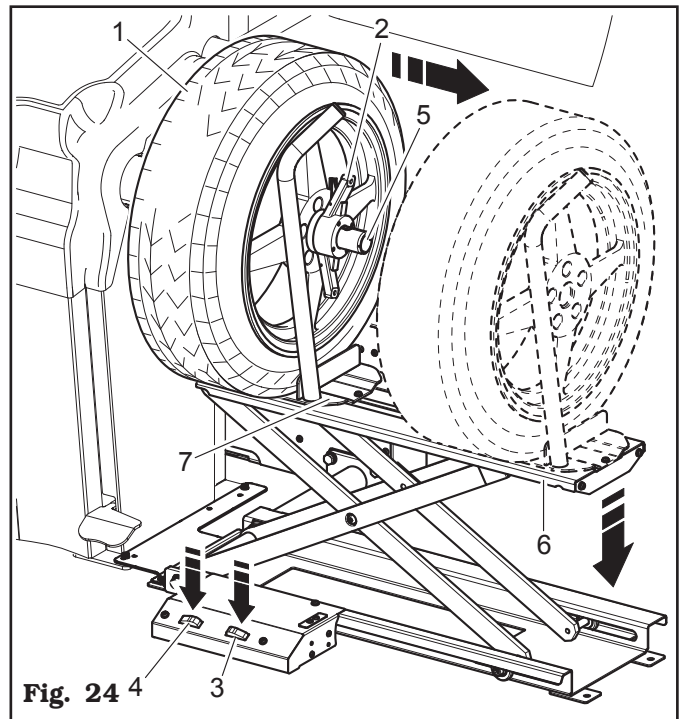

Fig. 24
- Unlock the wheel (Fig. 24 ref. 1) engaged to the mandrel, removing the locking devices (Fig. 24 ref. 2).
IF THE WHEEL (FIG. 24 REF. 1) DESCENDS OR RISES, PRESS THE PEDAL FOR RISING (FIG. 24 REF. 3) OR DESCENDING (FIG. 24 REF. 4) UNTIL THE WHEEL IS CENTRED ON THE MANDREL (FIG. 24 REF. 5).
- Move rightwards the wheel support (Fig. 24 ref. 7) together with the tyre that is leaning against it.
- Press the lowering pedal (Fig. 24 ref. 4) and then lower the footboard (Fig. 24 ref. 6).